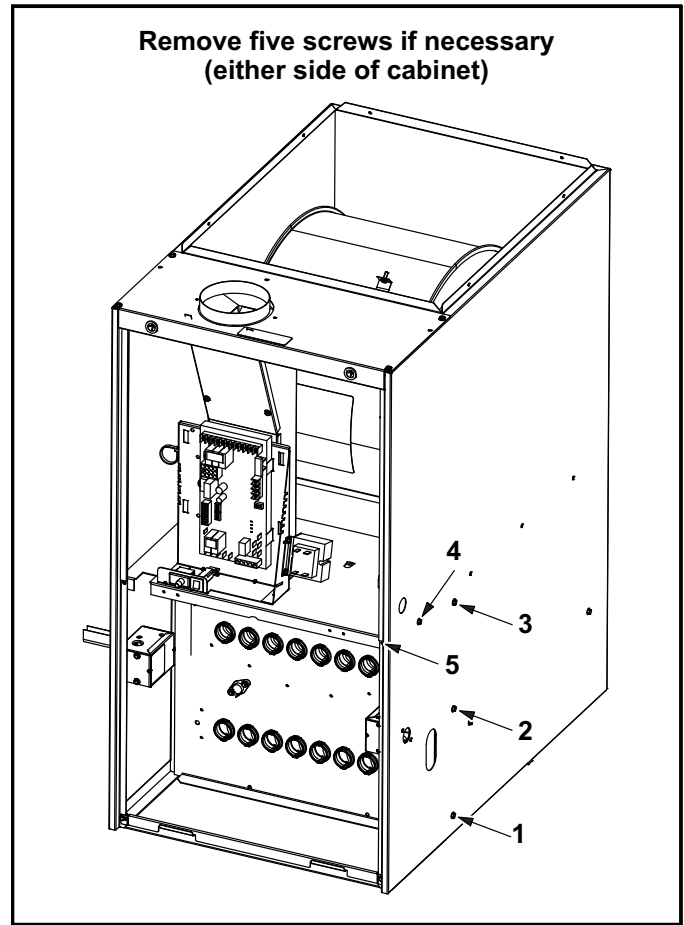

FIGURE 31
- 9 - Remove heat exchanger. It may be necessary to spread cabinet side to allow more room. If so, remove five screws from the left side or right side of cabinet. See figure 31.